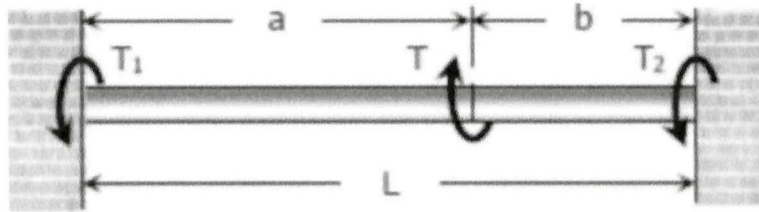

Figure Q3
- Q3** A torque T is applied, as shown in **Figure Q3**, to a solid shaft with built-in ends.